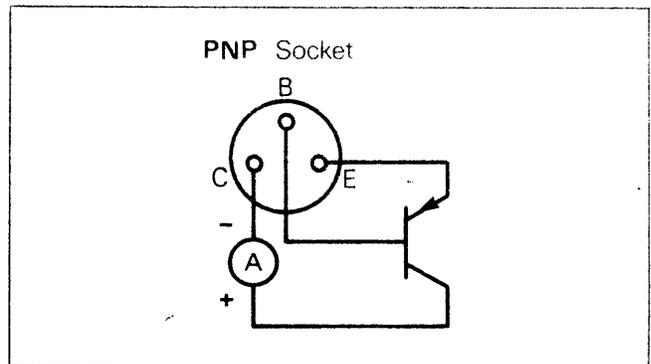

Fig. 13. Field calibration, f_T circuit.
- (e) Remove NPN Transistor and insert PNP Transistor into front panel socket labeled PNP (15) with current meter in series with the collector lead (See Fig. 13). Current measured should be between 9 and 11 milliamperes for proper operation.